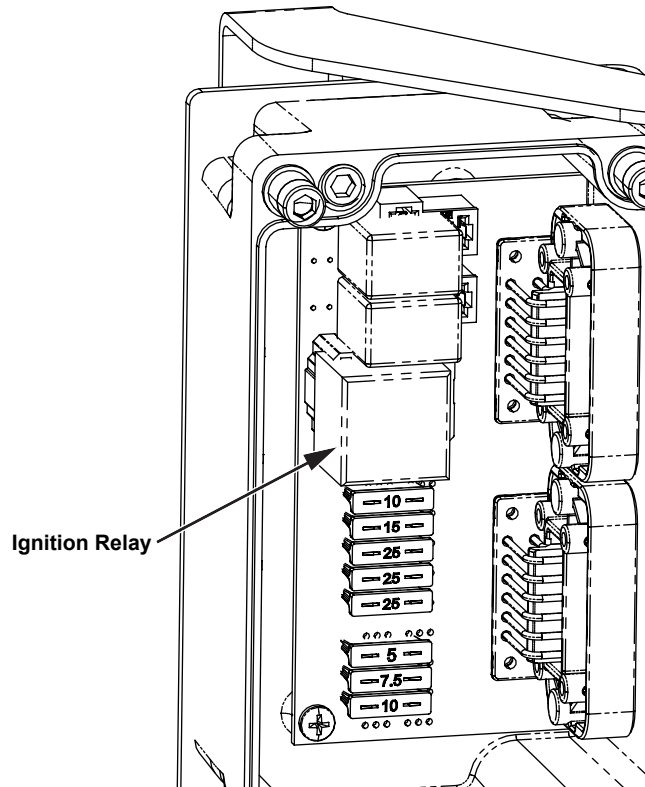

Figure 2
- Remove the ignition relay and discard (see Figure 2).